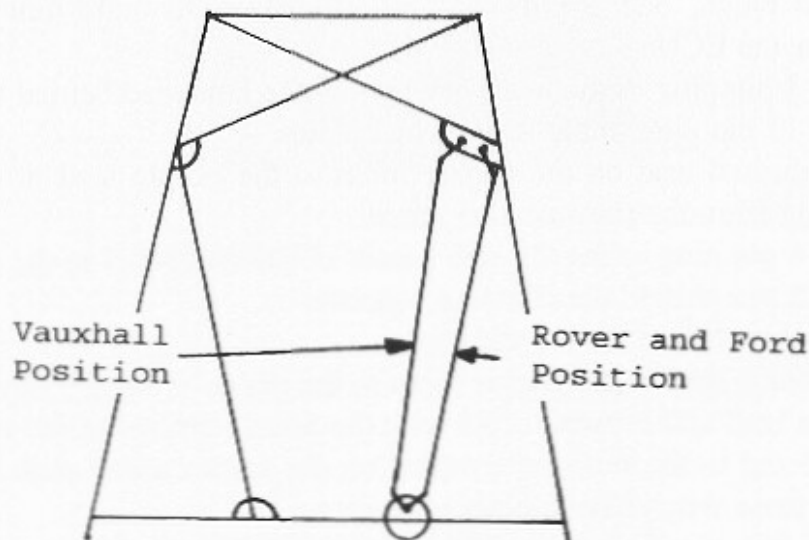

Figure 10C.3.6 Upper Engine Bay Diagonal Positions
3.6 Refit the upper engine bay diagonals as in figure 10C.3.6 and torque to 25 lbft using the fixings removed earlier.